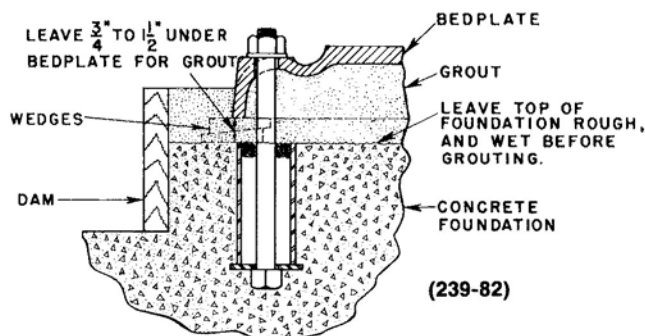

Figure 2: Foundation
- b) Each bolt should be installed with a pipe sleeve around it - to allow for adjustment. The inside sleeve diameter should be $2\frac{1}{2}$ to 3 times the diameter of the bolt. Place a washer between bolt head and sleeve to hold bolt in position. Stuff waste around foundation bolts to prevent concrete from entering between the bolt and pipe sleeve. See Figure 2: Foundation on page 11.
- c) The foundation bolts should be of sufficient length so that they project through the nut approximately $\frac{1}{4}$ " after allowance has been made for grouting ($\frac{3}{4}$ " to $1\frac{1}{2}$ "), the thickness of the bedplate, and the thickness of the foundation bolt nut. See Figure 2: Foundation on page 11.
- a) Build wood dam around foundation as shown in Figure 2: Foundation on page 11. Wet top surface of concrete foundation thoroughly.